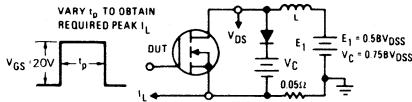

Fig. 15 – Clamped Inductive Test Circuit
4. $V_{DD} = 20\text{V}$, starting $T_J = +25^\circ\text{C}$, $L = 3.37\text{mH}$, $R_{GS} = 50\Omega$, $I_{PEAK} = 9\text{A}$. See Figure 15.